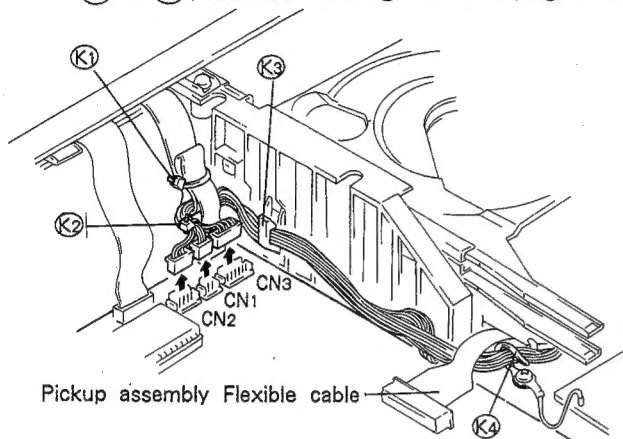
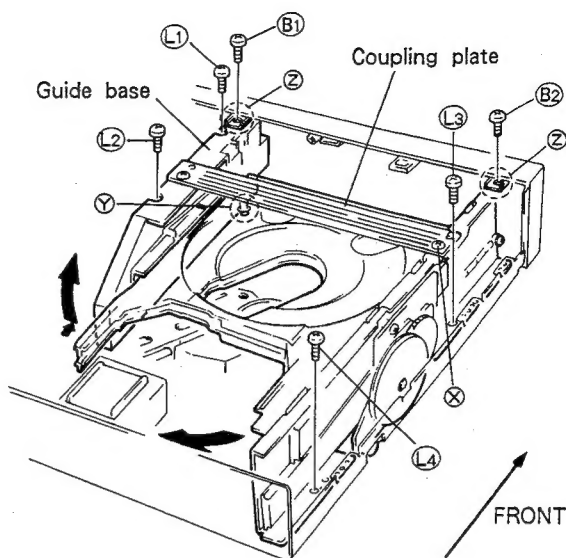
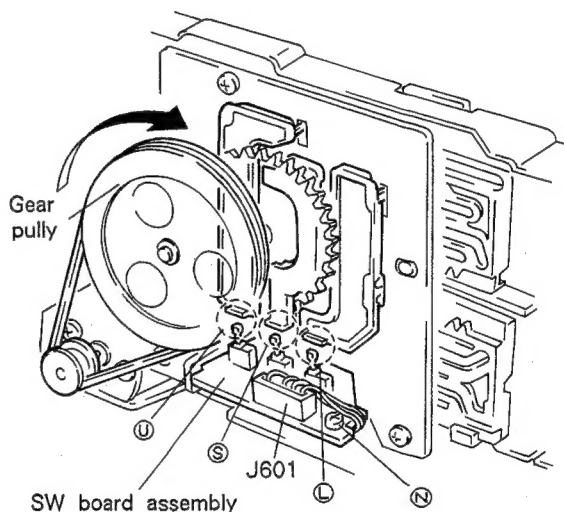

Fig. 2-4
Fig. 2-5
Fig. 2-6
2. Remove 2 binders (K1) · (K2), cable clamp section (K3) · (K4), and CN1 through CN3 in Fig. 2-4.
4. As shown in Fig. 2-5, lift up guide-base towards the back while pushing in the front panel direction.
5. After confirming the (Y) section (Protrusion section for positioning the bottom of the guide base) in Fig. 2-5 has been removed, move the mechanism toward the rear panel by lifting up the back and making sure not to damage flexible cable (in Fig. 2-4) of the pickup assembly.
6. Remove the mechanism assembly while making sure not to damage (Z) (front panel screw retaining section), and place at the left side of the unit.
7. Rotate gear-pulley by hand to the position that none of the three switches U, S and L is pressed (which is slightly forward position from the state that tray 1 overlaps tray 2). (Refer to Fig. 2-6)
8. Remove one screw (N) holding the SW board assembly and remove the SW board assembly. When attaching it, fix J601's lead wires to place between SW board assembly and chassis as shown in Fig. 2-6.
When attaching, be sure to guide the lead wires of J601 so that they are between the SW board assembly and the chassis. (Refer to Fig. 2-6)